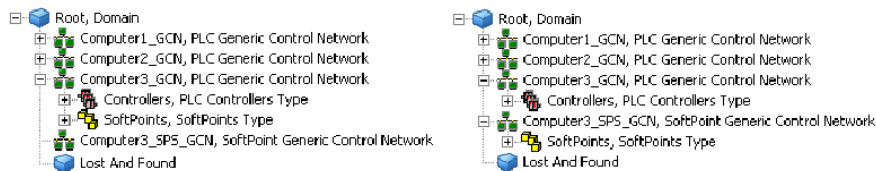

Figure 37. Dragged Object
2. Use the Object Browser to drag the `SoftPoints`, `SoftPoints Type` object from a SoftPoint Generic control network to the corresponding PLC Generic control network. Place the object at the same level as the `Controllers`, `PLC Controller Type` object as shown in Figure 37.